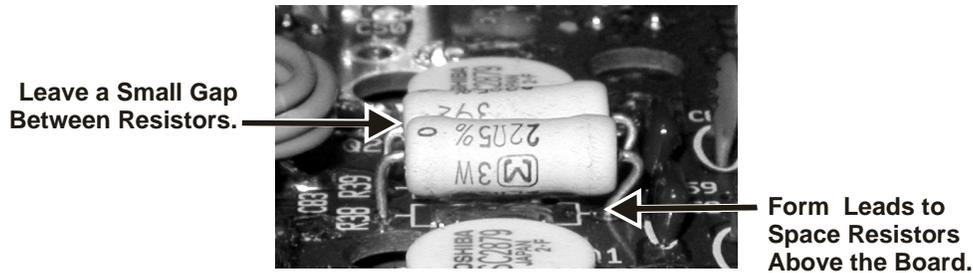

Figure 3. Installing R38 and R39.
- ☐ Replace R38 and R39 with 22 ohm (22 Ω) 3 watt resistors. The replacement resistors are slightly longer than the solder hole pad spacing for them. Bend the leads to space them above the PCB as shown in Figure 3. Position the resistors so they do not touch each other.